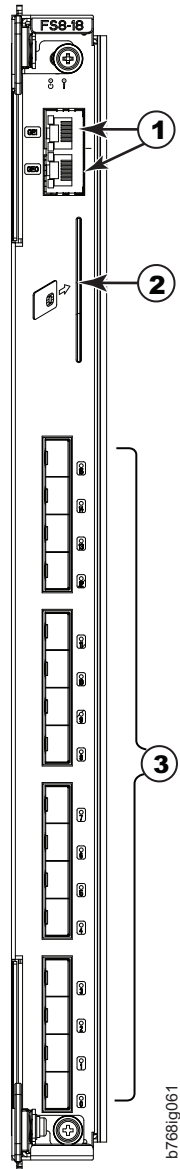

Figure 54. FS8-18 encryption blade
- Figure 54 on page 177 shows an FS8-18 encryption blade